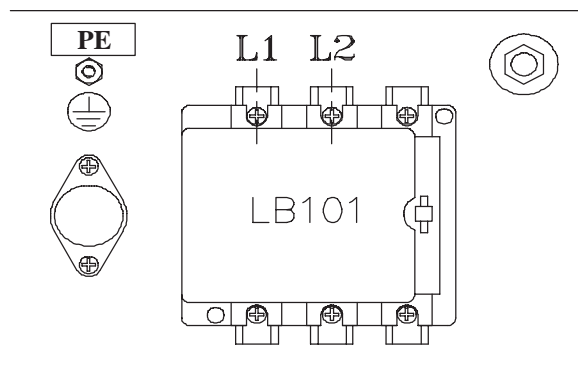

Fig. 8
Connect a ground wire from the ground point in the PrecisionFlo control assembly enclosure (shown in Figs. 8 and 9) to a true earth ground. The PrecisionFlo metering valve is grounded to the control assembly using cables provided with the metering valve.
2. For 918463 or 918644, connect electrical power to L1 (hot) and L2 (neutral) at main switch inside the control assembly enclosure. (See Fig. 8).